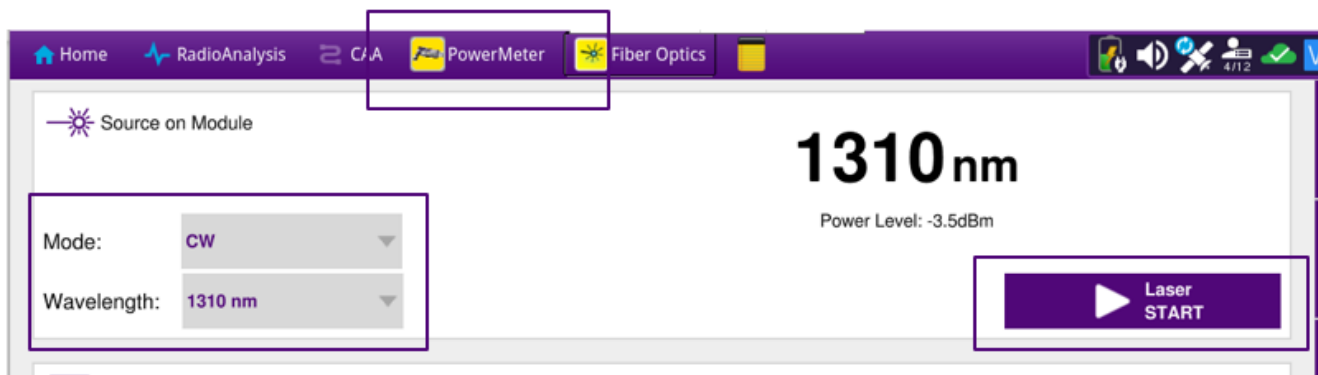

Figure 7: Optical Source
6. Configure as shown in *Figure 7* (CW/1310). Once fibers are connected and there is no risk of the laser light reaching anyone's eyes, start the Laser (right).